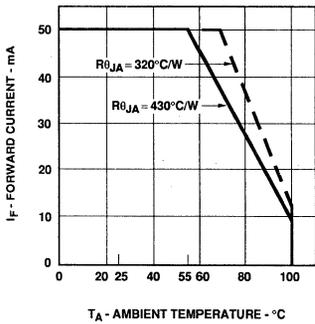

Figure 5. Maximum Forward DC Current vs. Ambient Temperature. Derating Based on  $T_{jMAX} = 110^{\circ}\text{C}$ .
3. Derate linearly as shown in Figure 5.